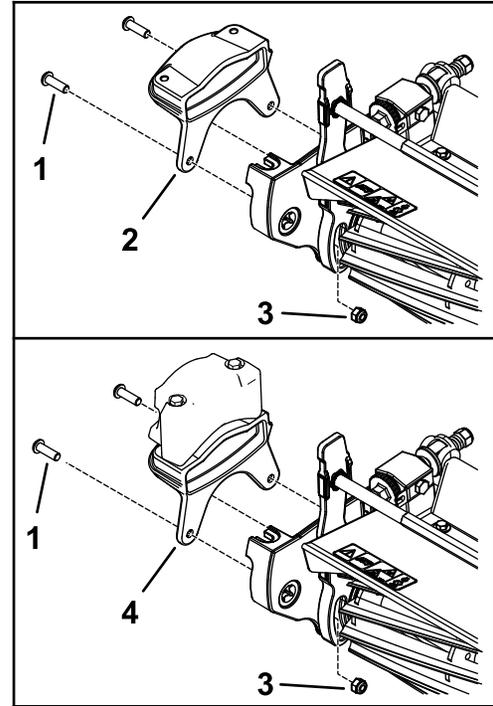

Figure 9
- Secure the new weight to the side of the cutting unit using 2 bolts (5/16 inch) and 2 nuts (5/16 inch) as shown in Figure 9.